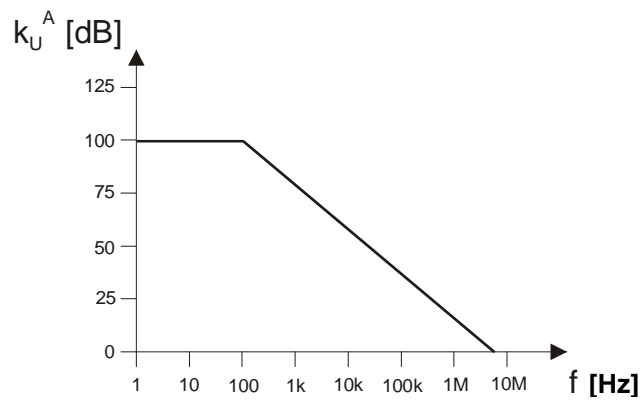

Fig. O1. The sample plot of k_u^A versus frequency.
3. Plot the voltage gain coefficient k_u of inverting amplifier versus frequency for different combinations of Z_1 and Z_2 . Apply logarithmic scale for frequency (the sample plot is presented in Fig. O1).
4. Find the input and output impedance of inverting amplifier applying the equations (2):